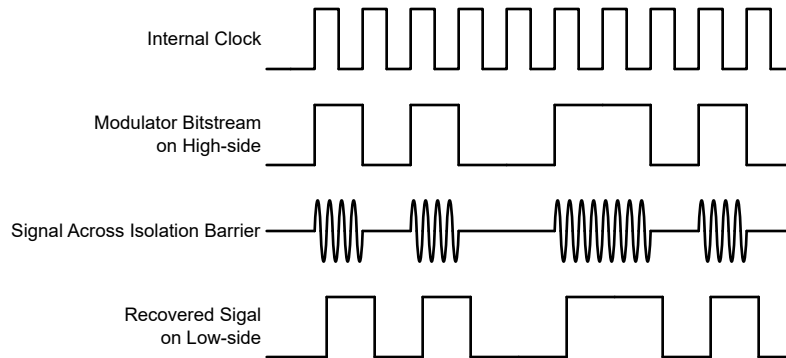

Figure 7-1. OOK-Based Modulation Scheme
The AMC1211-Q1 uses an on-off keying (OOK) modulation scheme, as shown in Figure 7-1, to transmit the modulator output bitstream across the SiO₂-based isolation barrier. The transmit driver (TX) shown in the *Functional Block Diagram* transmits an internally-generated, high-frequency carrier across the isolation barrier to represent a digital *one* and does not send a signal to represent a digital *zero*. The nominal frequency of the carrier used inside the AMC1211-Q1 is 480 MHz.